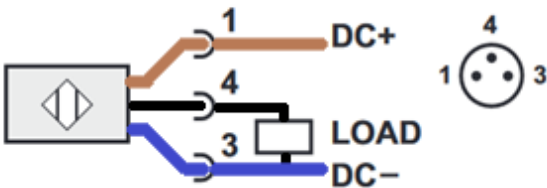
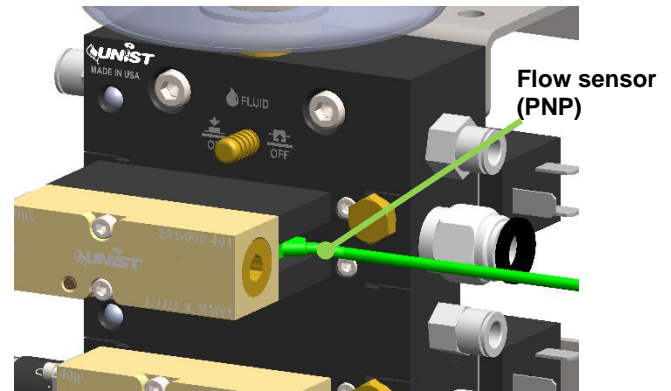

Figure 30: Flow Sensor Wiring Diagram
Figure 31: Location of Flow Sensor, shown in green
**To calibrate the flow sensors**, ensure they are properly connected and powered per the wiring diagram in Figure 30, then follow the procedure below referring to Figure 31 & Figure 32.